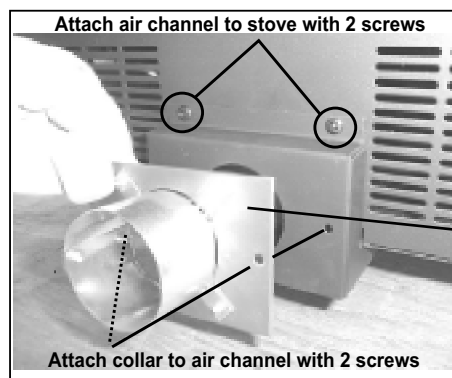

Figure 17.3
3. Secure air channel to appliance with 2 screws and secure the collar assembly to the air channel with 2 screws. **Figure 17.3**.